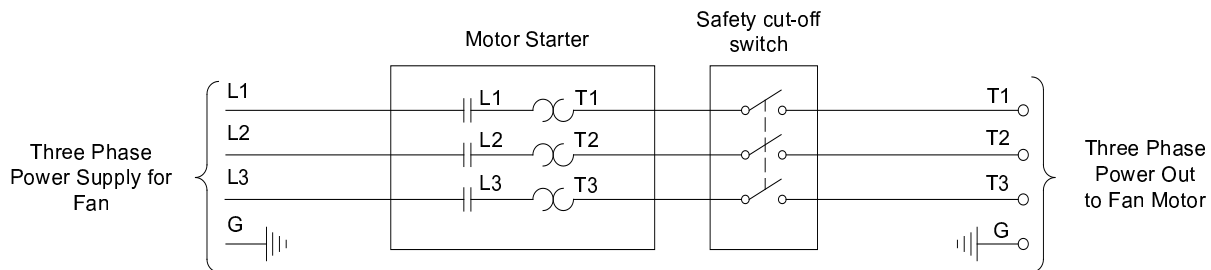

Figure 16
**Three Phase Fans:** motor overload protection should be provided for each fan. A three-pole motor starter or slow blow motor fuses must be used. See Figure 16.